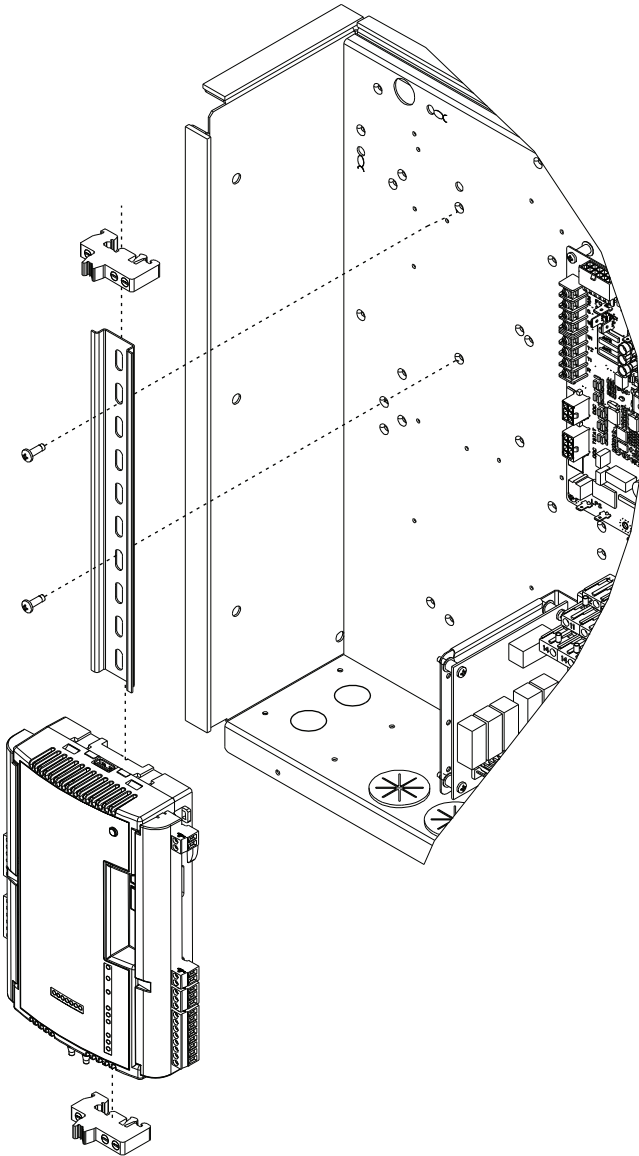

Fig. 28 — Installing TruVu Controller on a 10-in Rail Control Harness Assembly
- For Chassis 5 units, locate one 10-in. rail, two rail ends, and two No. 8 screws. Install these items. (See Fig. 28.)